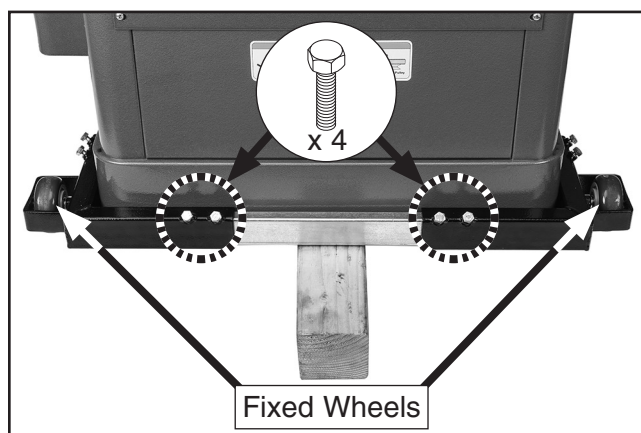

Figure 19. Remaining rail-bracket assembly secured.
- Secure rail to corner brackets using (4) M8-1.25 x 16 hex bolts, as shown in **Figure 19**.
- With machine still propped on 4x4 block, install both fixed wheels using (4) M10-1.5 x 55 shoulder bolts (see **Figure 19**).